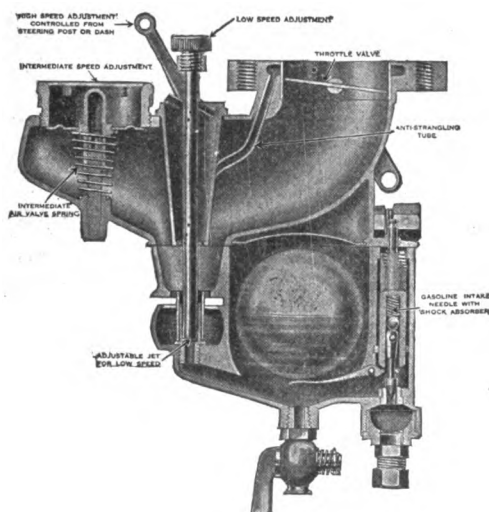

Fig. 116. Section of Carter Multiple-Jet Carburetor
A vertical section through the center of this carburetor is shown in Fig. 116. As will be noted, the bottom of this rests in a tube, or open standpipe, which communicates with the float chamber and is kept filled to the float level with fuel. Just at the top of this tube is the main air inlet. The air enters around the sides of the standpipe
*Adjusting the Carter.* By reference to Fig. 116, the adjusting will be made plain. First set the high-speed adjustment with the lever in a vertical position; then turn the knurled button marked low-speed adjustment down, or to the right as far as it will go; next back it off and turn it to the left three-quarters of a turn. Turn the knurled valve ring marked intermediate-speed adjustment to the point where the valve seats lightly, then turn the valve down, or to the right, from eight to ten notches to increase the spring tension. Pull the easy-starting lever, connected with the dash, forward to